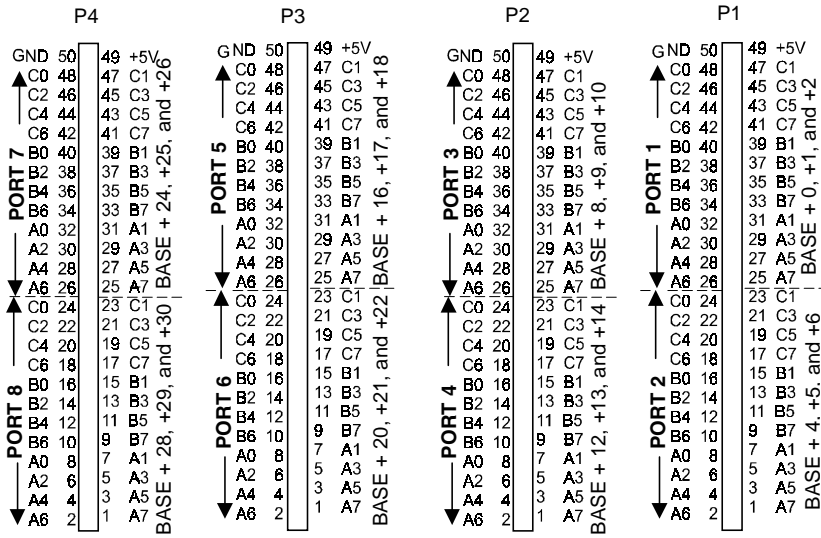

Figure 4-4. CIO-DI192 Connector Pin-outs & Register Assignments
- The CIO-DI192 has four connectors (Figure 4-4).